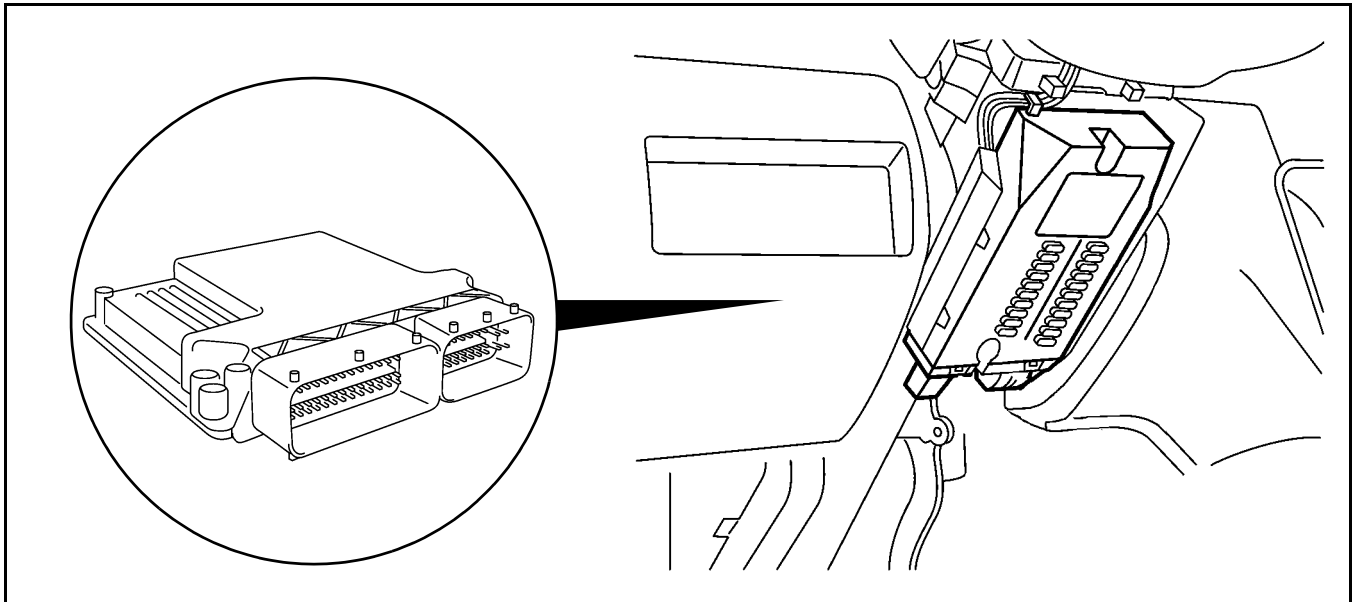

Figure 242 Location of the Engine Control Module (ECM)
13. Locate the engine control module (ECM) below the left knee protection next to the steering column (Figure 242). Pull the ECM down at the connection side until it releases. Pull it forward and out of the mounting bracket.